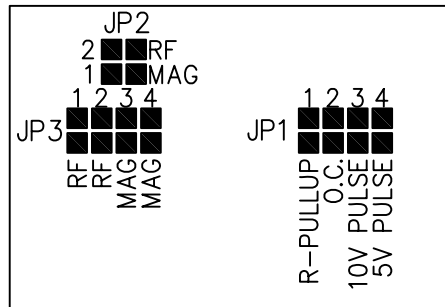

FIGURE 2
1. SET SOLDER BRIDGE JP2 AND JP3 (SEE FIGURE 2) TO THE DESIRED SENSORS TYPE (MAG OR RF) POSITION.
2. CONFIGURE SOLDER BRIDGE JP1 (SEE FIGURE 2) TO THE DESIRED PULSE OUTPUT AS FOLLOWS: